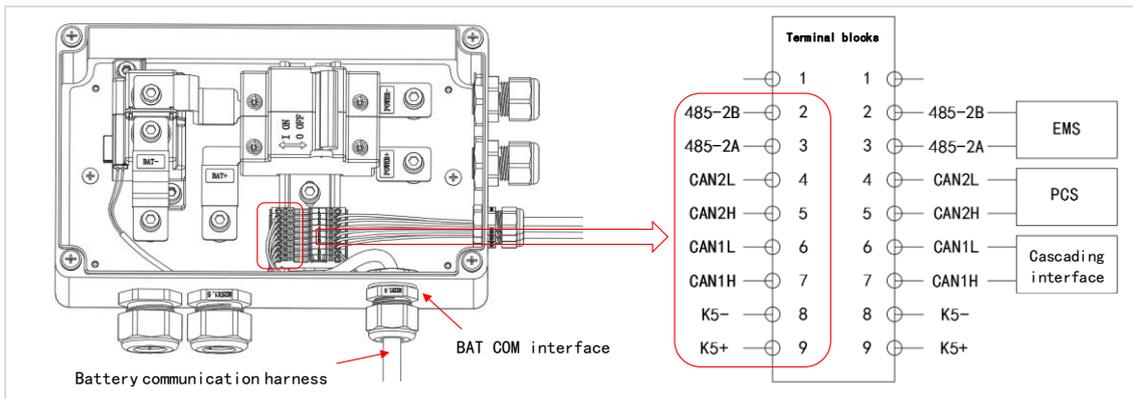

Figure 4-3
- Find the battery communication harness (D) in the battery system accessories.
- Take down the cable gland of “BAT COM” interface on the maintenance control box and set it on the battery communication harness (D).
- The battery communication harness (D) is passed through the “BAT COM” interface on the maintenance control box.
- According to the label on the terminal blocks and the wiring diagram of terminal blocks, as shown in Figure 4-3, the battery communication harness (D) is inserted directly from the upper end into the same side of the terminal blocks (the other side is to be related to the battery pack in chapter 4.3.5).
- Move the cable gland on the battery communication harness (D) to the interface and tighten it.